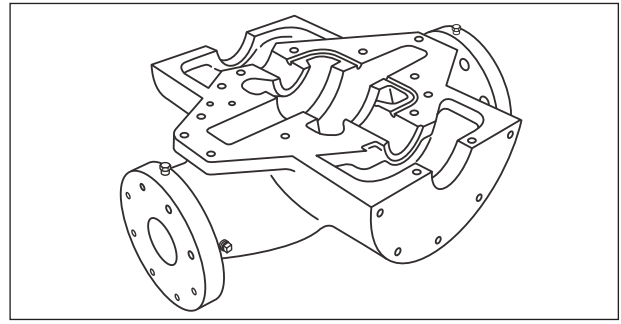

Figure 9. Rotating element removed from casing half.
and (74) two stage and place it on a suitable bench or work surface. Refer to Fig. 9.